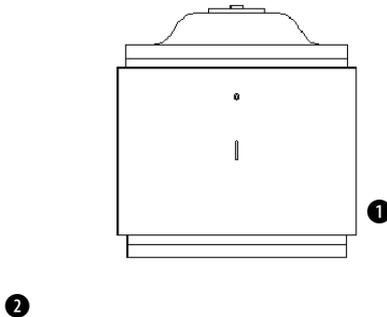

Figure 10-38: The drive block section, after several grip edits, looks a little like a cookie jar.
- Pick the grip at the midpoint of the bottom line. Right-click and choose Move from the shortcut menu. At the Specify move point or [Base point/Copy/Undo/eXit]: prompt, type **@0,-3** ↵. The model should look like Figure 10-38.
13. Press Esc to remove all grips. Define a crossing window by picking first at ❶, and then at ❷ (see Figure 10-38).